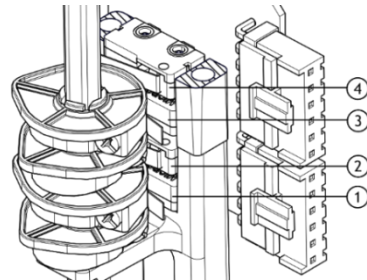
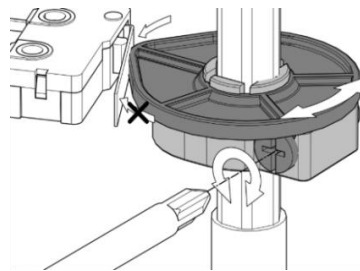

Figure 1 Switches
Figure 2 Setting a cam
1. Turn the setting screw of the blue cam corresponding to the clockwise travel limit switch (1 in **Figure 1**) with a screwdriver (see **Figure 2**).
Make sure that the cam operates the lever in the right direction (as shown by the arrow in **Figure 2**), otherwise the switch could be damaged.
5. Turn the setting screw of the gray cam corresponding to the counterclockwise travel limit switch (**2 in Figure 1**) with a screwdriver.
2. Set the blue cam corresponding to the clockwise signaling switch (3 in **Figure 1**).
4. Set the Gray cam corresponding to the counterclockwise signaling switch (4 in **Figure 1**).